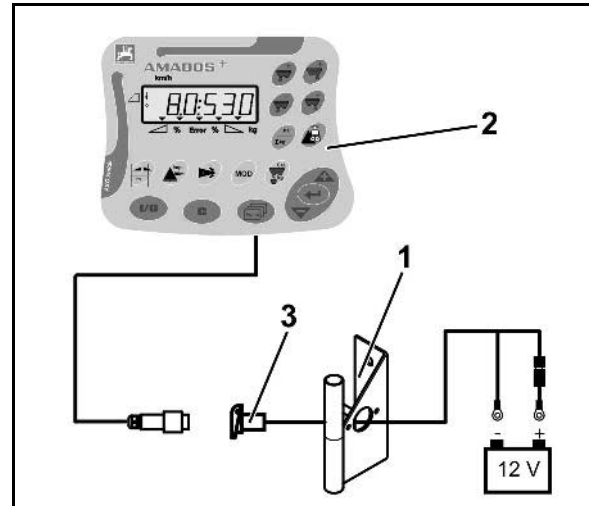

Fig. 16
The console (Fig. 16/1) must be installed to the right of the driver in the cab, within visual range and easy reach, so that it is vibration-free and electrically conductive. The distance from the radio unit or aerial must be at least 1 m.
1. The computer mount (Fig. 16/2) is fitted on to the console pipe line.
2. Secure the bushing (Fig. 16/3) of the battery cable on the console.